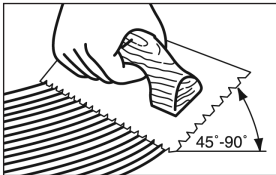

Figure 11
- Hold trowel at a 45° angle (Figure 11) firmly against the subfloor to obtain a 50-60 ft.² (4-5.5 m²) per gallon spread rate (30-35 ft.² per gallon for Summit spread with the recommended trowel size) or other adhesive manufacturer's trowel. The trowel will leave ridges of adhesive and very little adhesive between the ridges. This method will allow you to still see the chalk lines between the ridges and provide the recommended spread rate. For additional application instructions, follow the recommendations on the adhesive container.